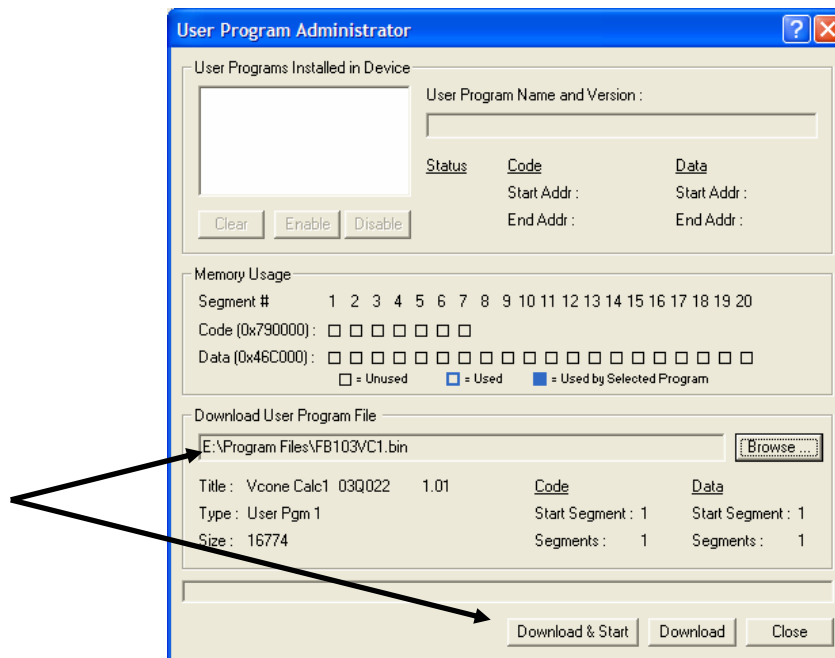

Figure 3. User Program Administrator
7. Click **Open** to select the program file. The User Program Administrator screen displays. As shown in Figure 3, note that the Download User Program File frame identifies the selected program and that the **Download & Start** button is active: